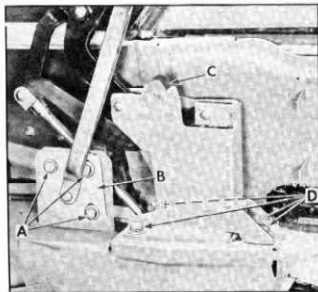

Fig. 53—1949-52 Hinge Fulcrum and Control Link Plate
2. Loosen three bolts "A" and shift the plate "B" downward or upward. A downward movement will raise the side roof rail and an upward movement will lower it (fig. 53).
1. With the top raised half-way loosen bolts "D", this allows a forward or rearward movement of the hinge fulcrum and permits the desired adjustment (fig. 53).